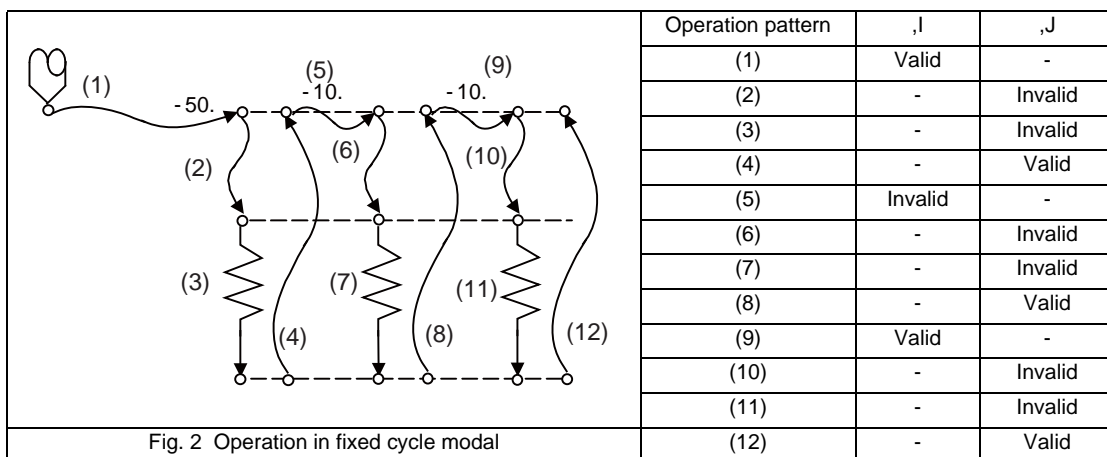

Fig. 2 Operation in fixed cycle modal
In the following machining program, the commanded in-position width is valid for the Fig. 2 block. In the (B) block, the in-position width (, I) commanded regarding to positioning in the previous block (A) is invalid (5). However, when returning from the hole bottom, the in-position width (, J) commanded in the previous block (A) is valid (8).